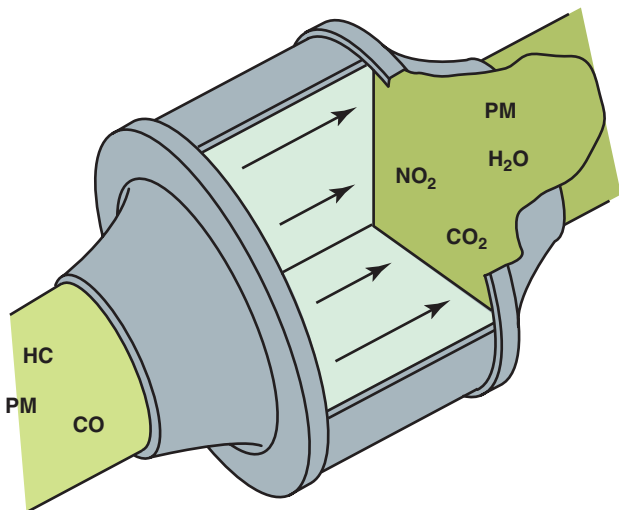

FIGURE 11-23 Chemical reaction within the DOC.
- Carbon monoxide (CO)
- Hydrocarbons (HC)
- **SEE FIGURE 11-23.**